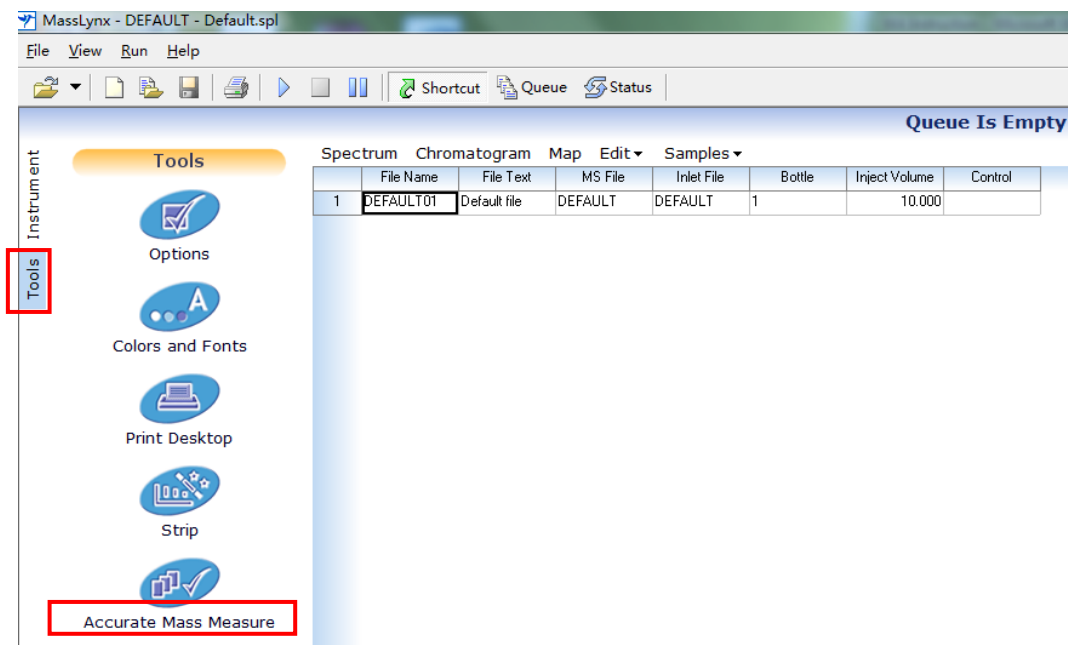

Figure 2. Convert the profile spectrum file into the centroid spectrum file in MassLynx.
2. To convert the profile spectrum data into the centroid spectrum data in MassLynx, Click: Tools → Accurate Mass Measure (Figure 2).